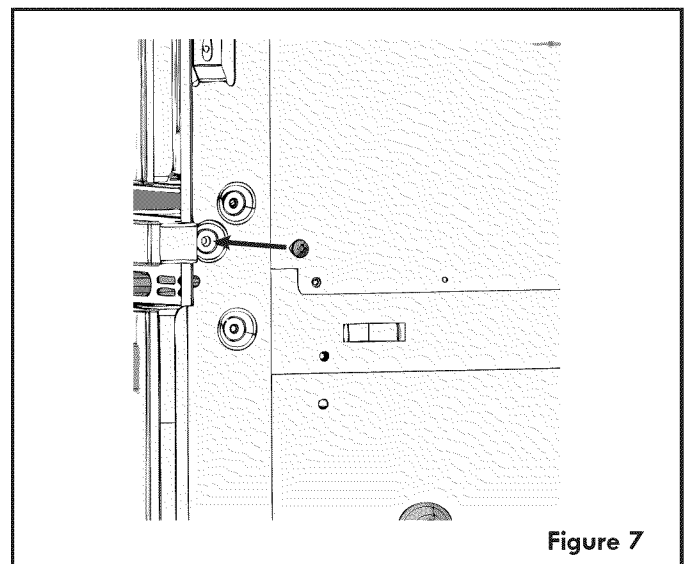

Figure 7
- 8 Install now the center trim using the screws supplied with the unit, on both sides (Figure 7).